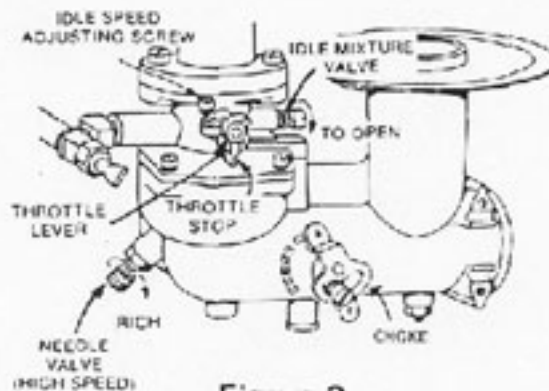

Figure 2
- C. Choke - Close to start a cold engine (Figure 2). Open choke slowly after engine starts.